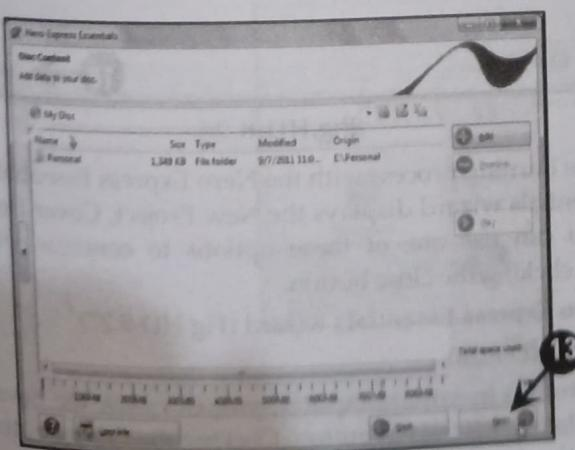
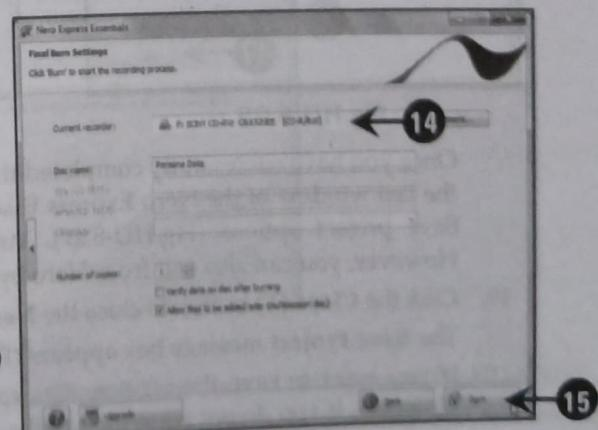

Fig.HD-8.21
Fig.HD-8.22
The Disc Content page of the Nero Express Essentials wizard reappears (Fig.HD-8.21).
13. Click the Next button (Fig.HD-8.21). The Final Burn Setting page of the Nero Express Essentials wizard opens (Fig.HD-8.22).
14. Type a name for the CD beside the Disc name text box. In our case, we have typed Personal Data (Fig.HD-8.22).
15. Click the Burn button in the Nero Express Essentials wizard, as shown in Fig.HD-8.22: